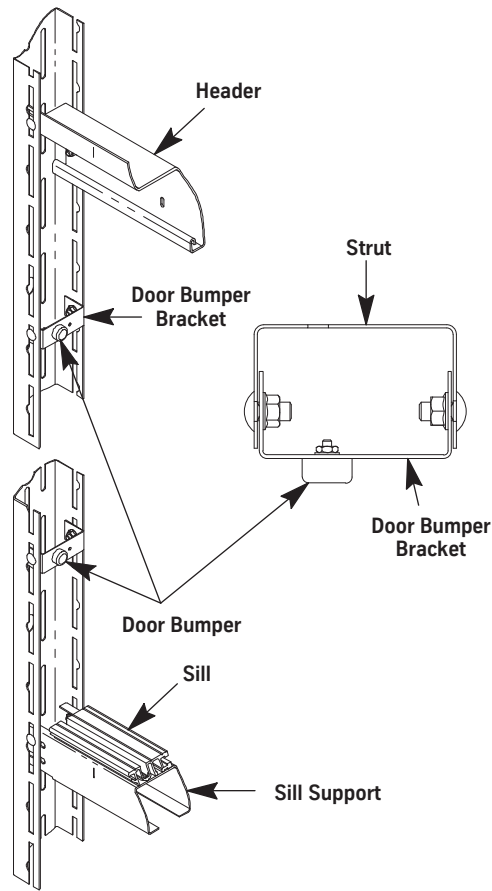

Figure 60 - Door Isolation Bumpers
3. Install the door isolation bumpers. See Figure 60 on page 7-70.